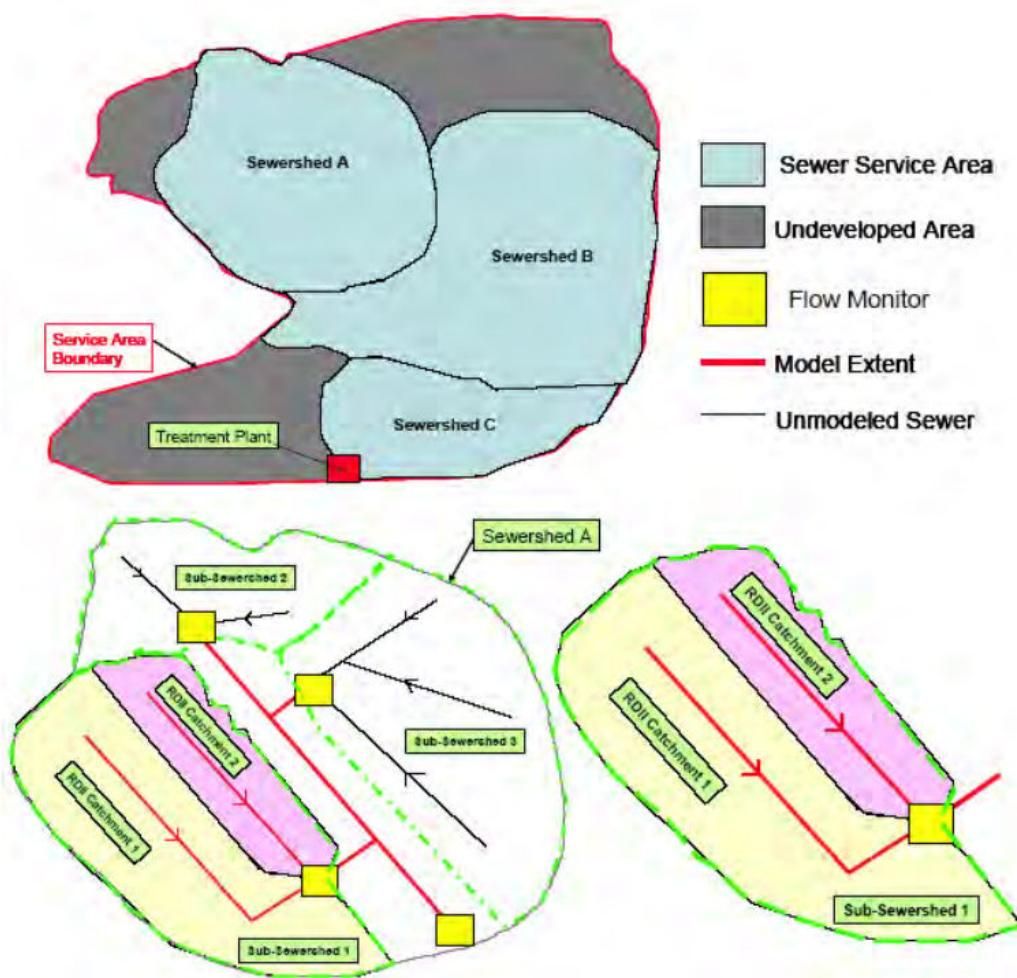

Figure 7-5 Sewersheds delineation (Vallabhaneni et al., 2007).
1. Identify the sewersheds areas that are tributary to the flow monitor (see Figure 7-5).